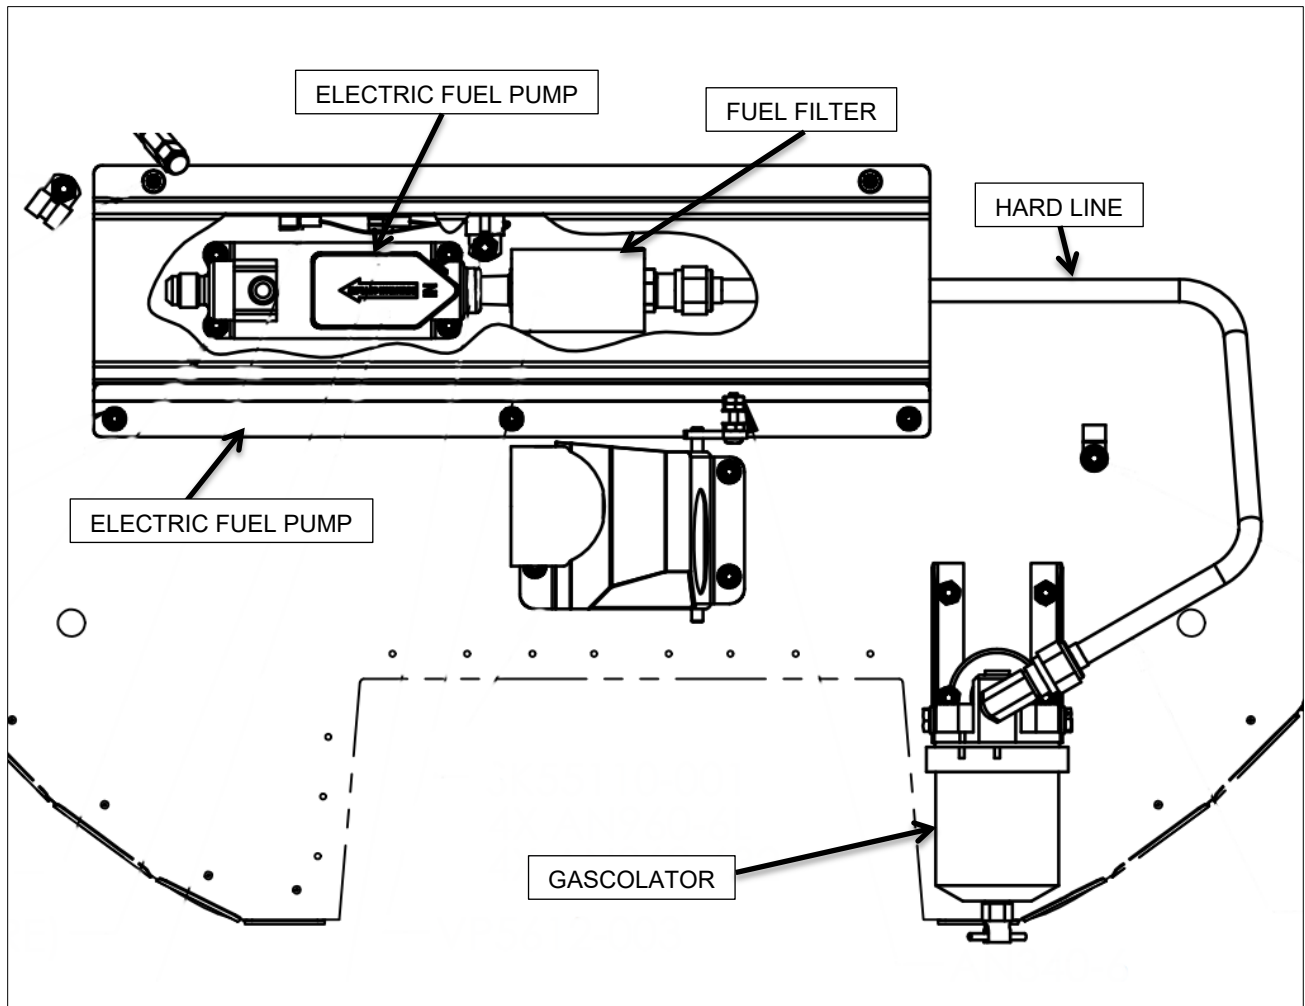
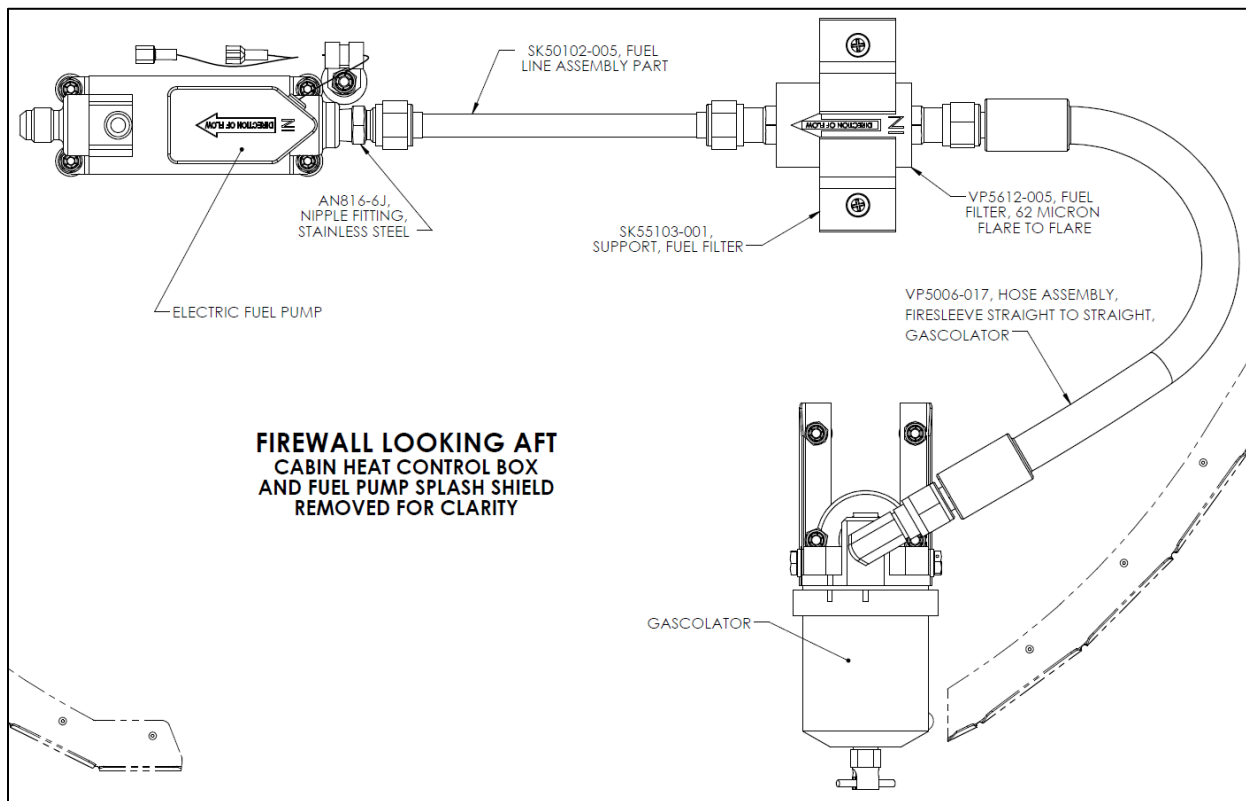

Figure 1 - Original Configuration
Figure 2- Fuel Filter Retrofit Installation
4. Remove the fuel pump splash shield and save all hardware. Remove the hard fuel line between the fuel filter and gascolator. Remove the fuel filter. Figure 1 illustrates the original configuration. Figure 2 illustrates the new filter and fuel line placement.
5. Lube all but the first couple of threads on the NPT side of the AN816-6J stainless nipple fitting using fuel and oil system lubricant, CubCrafters' Part Number RM6032-001. Screw AN816-6J into the "in" side of the electric fuel pump. Tighten 2-3 turns from finger tight. Reference Figure 2.
6. Connect the new hard fuel line, CubCrafters' Part Number SK50102-005, to the stainless nipple fitting, AN816-6J. Torque 270-300 inch-pounds. Reference Figure 2.
7. Connect the new 62 micron fuel filter, CubCrafters' Part Number VP5612-005, to the hard fuel line (SK50102-005) and torque 110-130 inch-pounds. Reference Figure 2.
8. Center the fuel filter support, CubCrafters' Part Number SK55103-001, over the fuel filter and mark the location of the holes on the firewall with a fine tip marker. Centering is critical because the drilled holes will be close to a fuselage tube, see Figure 2.